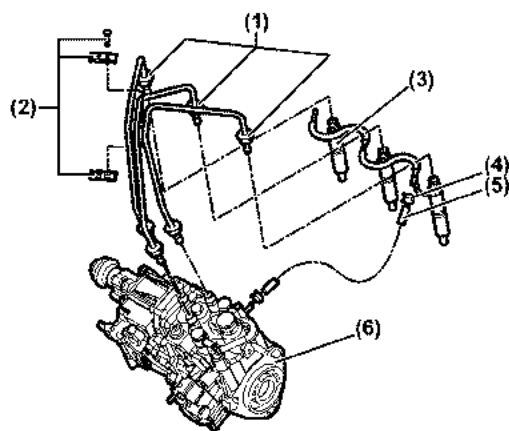
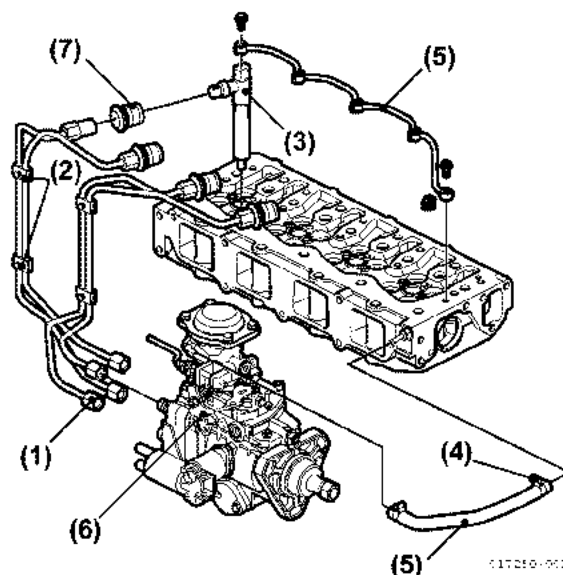

Figure 6-7
Figure 6-8
2. Disconnect the hose from the fuel return line (Figure 6-7, (5)), (Figure 6-8, (5)).